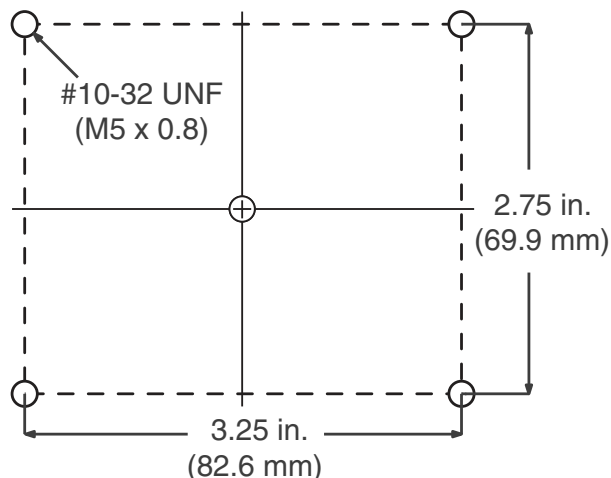

Fig. 37: CGM Mounting Holes
4. Drill the mounting holes using the mounting hole dimensions shown in Fig. 37.